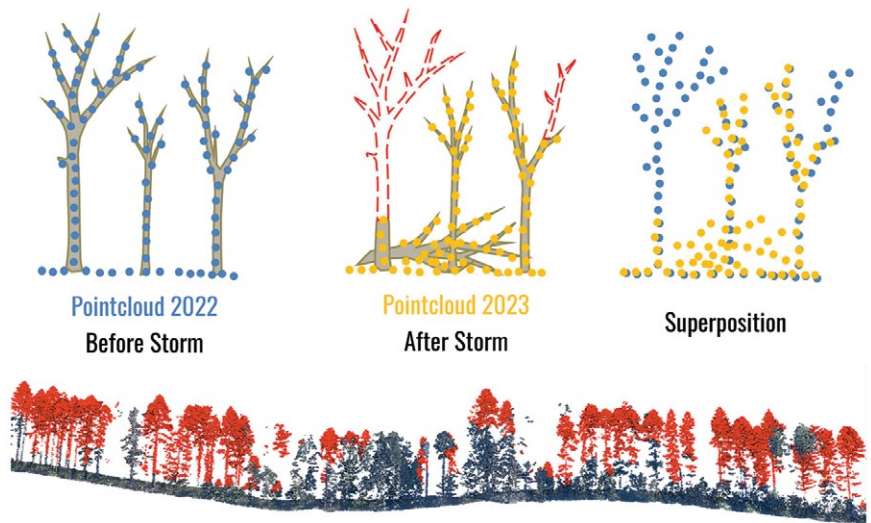

Figure 5: Cross-section view showing the pre-event (2022) points colored in red where storm damage occurred in 2023.
- Nearest-neighbor analysis of pre- and post-event lidar point clouds, enabling detailed three-dimensional visualization and cross-sectional analysis of damage at the individual tree scale (Figures 5 and 6).